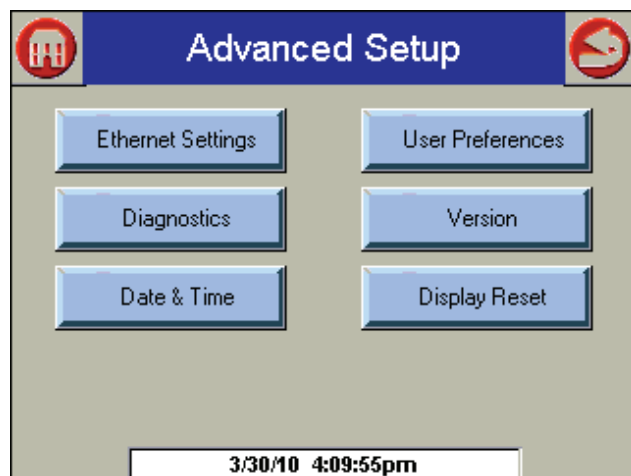

Fig. 109 – Advanced Setup Screen
3. Press the Advanced Setup button. The Advanced Setup screen is shown in Fig. 109.